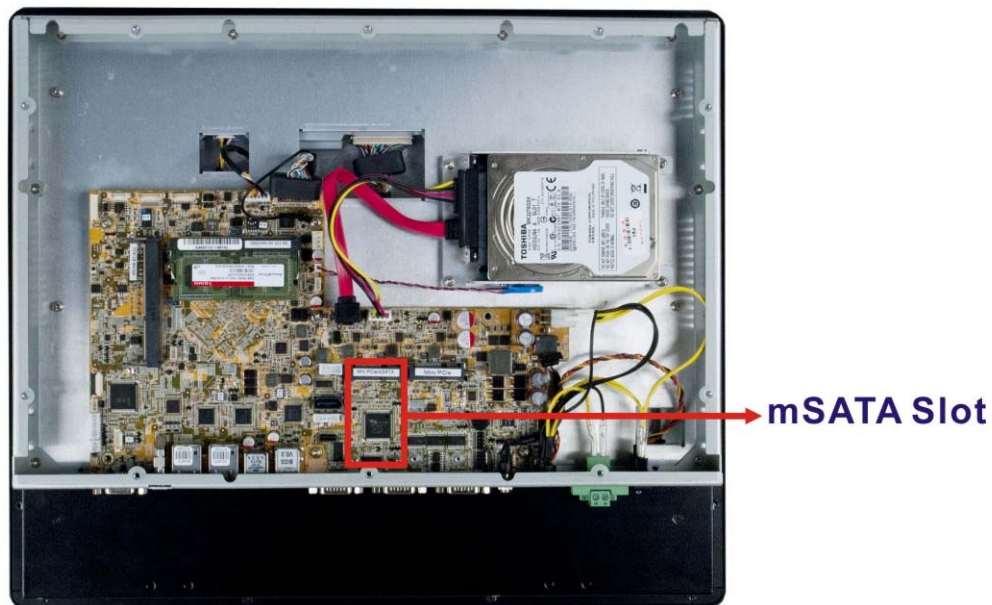

Figure 3-7: PCIe Mini Card Slot which supports mSATA
Step 2: Locate the PCIe Mini card slot which supports mSATA. The location of the PCIe Mini card slot is shown in **Figure 3-7**.